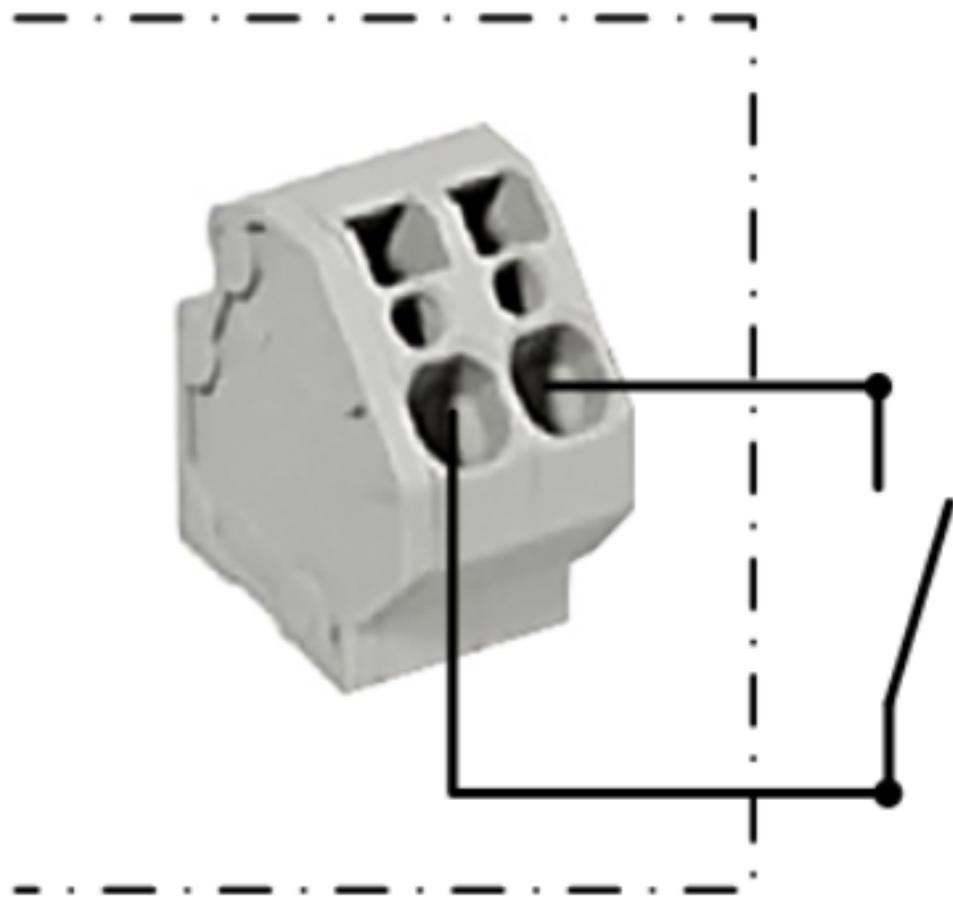

Figure 11. Circuit diagram for the potential-free contact X1
- Figure 11. Circuit diagram for the potential-free contact X1